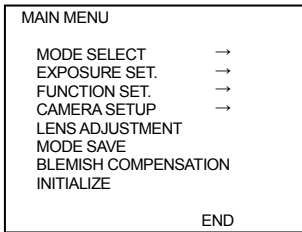

Fig.7-5 MAIN MENU
2. MAIN MENU appears on the monitor as shown in Fig.7-5.